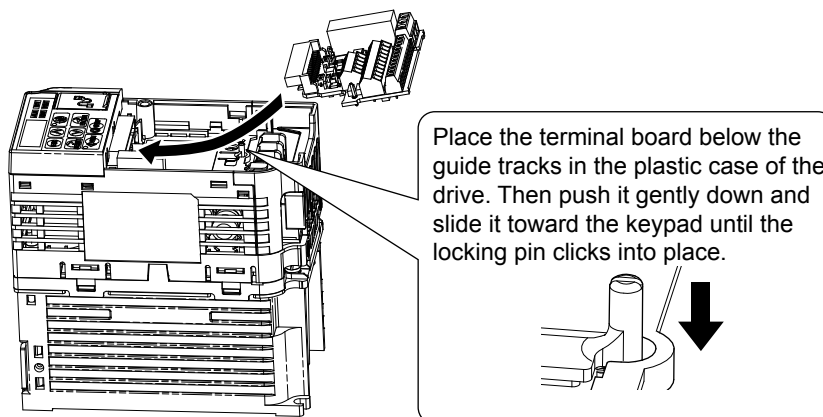

Figure 7.11 Terminal Board Reinstallation
1. Reinstall the removable terminal block on the drive according to Figure 7.11.